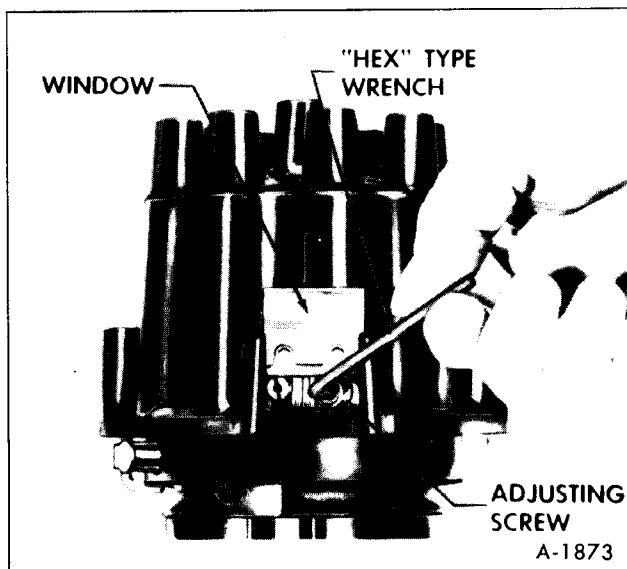

Figure 34—Adjusting Dwell Angle
4. With the engine running at idle speed, insert 1/8" Allen wrench into the head of the adjusting screw as shown in Figure 34 and adjust dwell angle to 30 degrees.